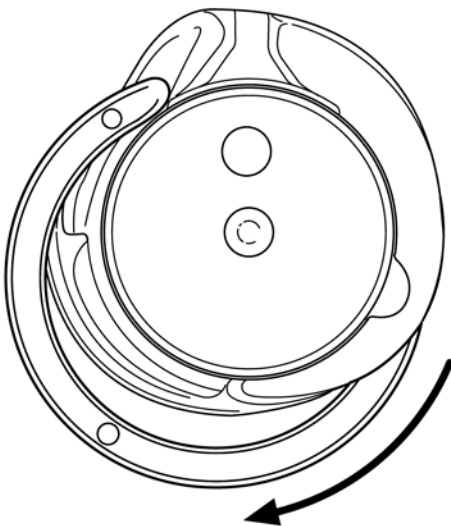

Fig. 73
- Turn the sewing hook gib to the left into the bobbin case base (fig. 73.).